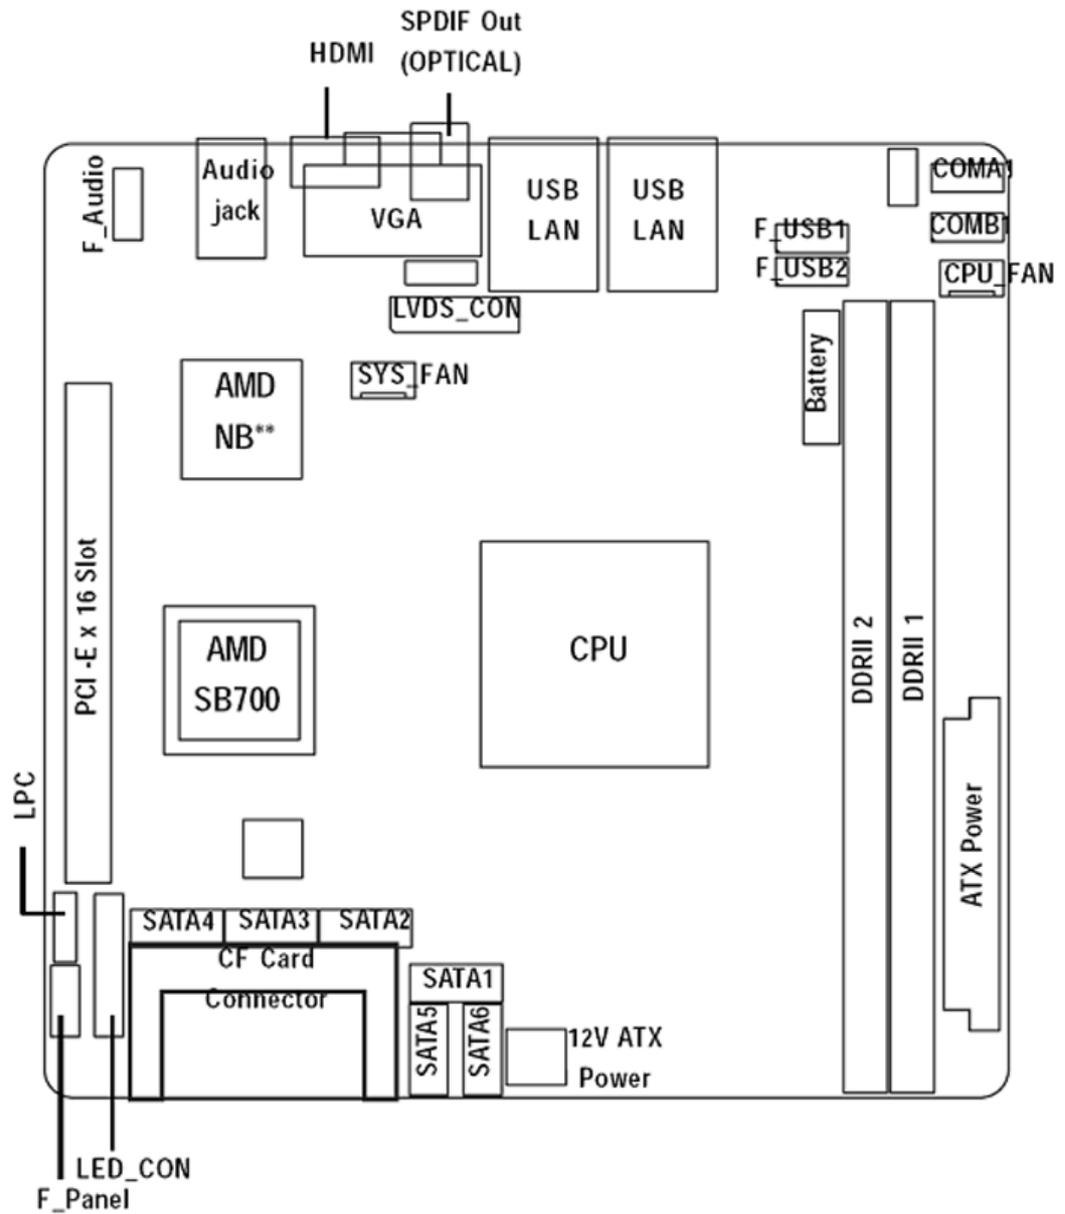
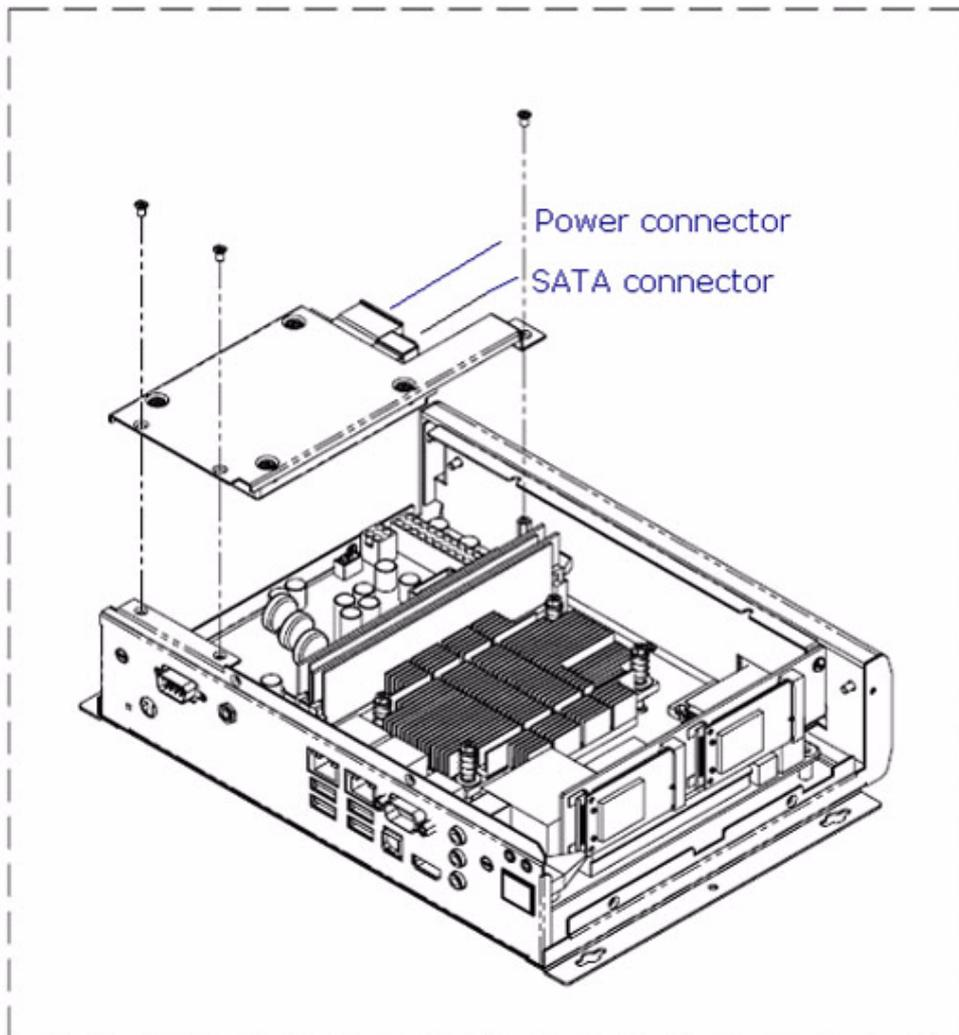

Figure 2.21 Motherboard components
Figure 2.22 HDD installation
1. Connect Yellow SATA HDD cable(in accessory box) from SATA3 or SATA4(Fig. 2.21) to the SATA connector on HDD module(Fig. 2.22)
2. Connect the SATA connector of power cable to the power connector(Fig. 2.22) on HDD module.
1. Connect the USB connector of TV tuner cable to TV tuner module and the other side to USB1 or USB2(Fig. 2.21)